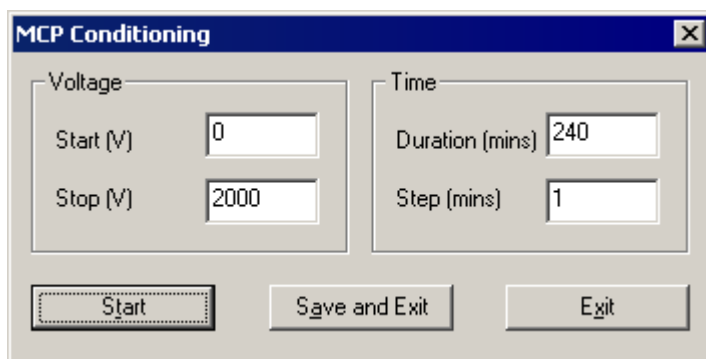

Figure 2-1 MCP Conditioning Dialog
4. Select **Options > MCP Conditioning** to access the MCP conditioning program (Figure 2-1).